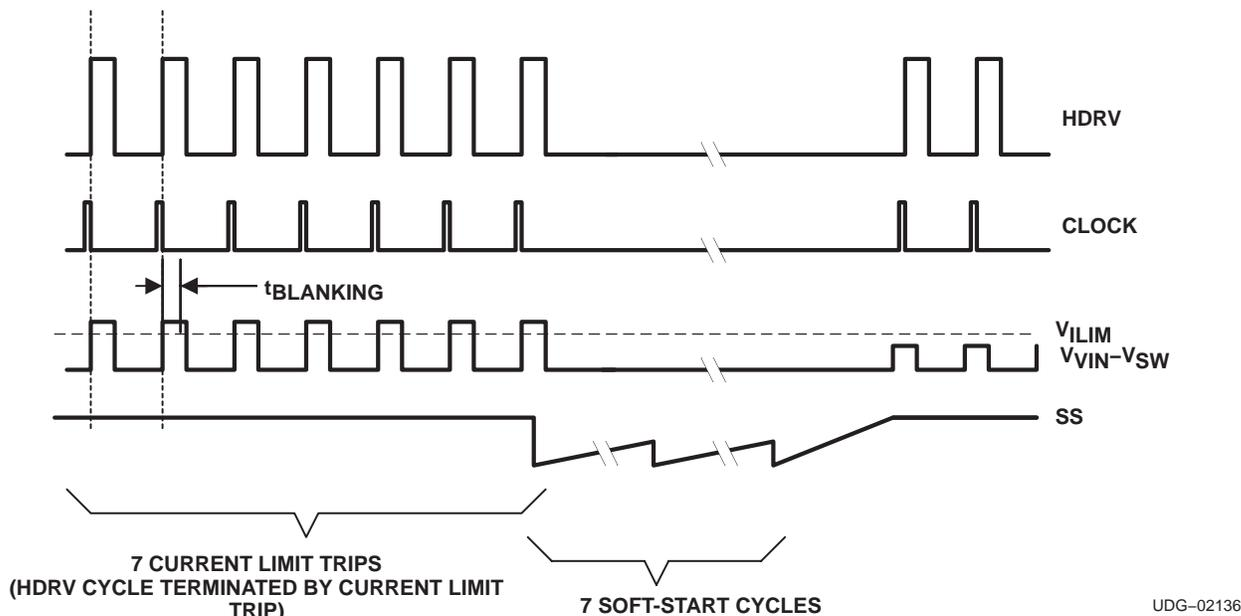

Figure 9. Typical Current Limit Protection Waveforms
Voltage-mode buck-type converters are typically compensated using Type III networks. Since the TPS4005x uses voltage feedforward control, the gain of the PWM modulator with voltage feedforward circuit must be included. The modulator gain is described in Figure 9, with  $V_{\text{IN}}$  being the minimum input voltage required to cause the ramp excursion to cover the entire switching period as described in equation (19).